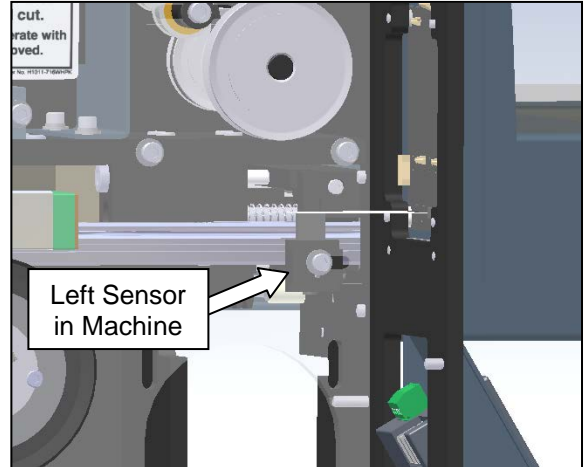

Figure 3-355. Installing the Left Plate Sensor
11. Reinstall the left sensor and mounting block into the machine (Figure 3-355).